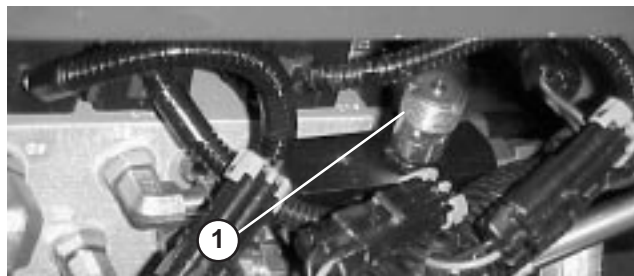

Figure 61
1. Locate valve behind access panel above operator's platform (Fig. 61).